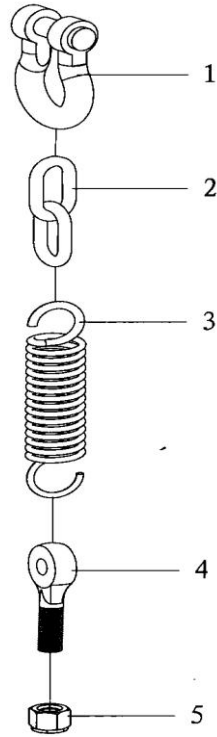

Fig. 7-22
22. Assembly of suspension chain (Fig 7-22, Table 22)